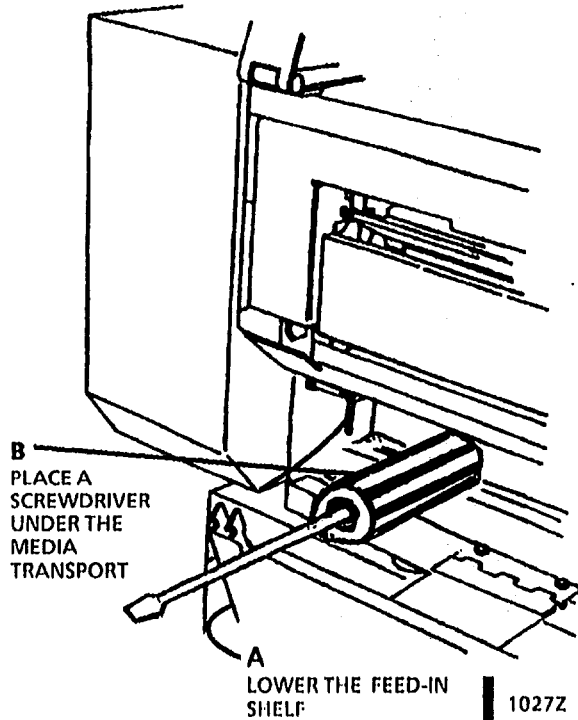

Figure 1. Preparing to Remove the Latch Springs
3. (Figure 1): Prepare to remove the latch springs.